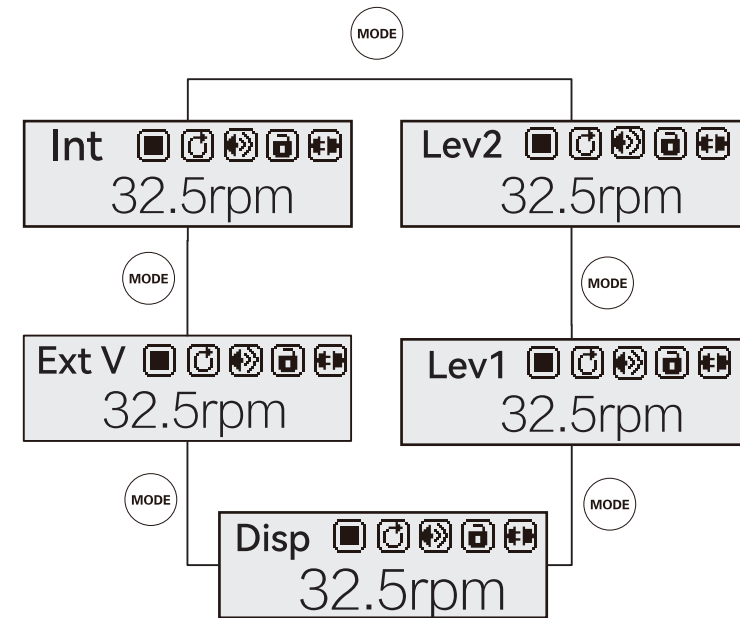

Figure 6 Mode Switching
- Press  once to switch the mode once. For specific information display logic, refer to Figure 6: